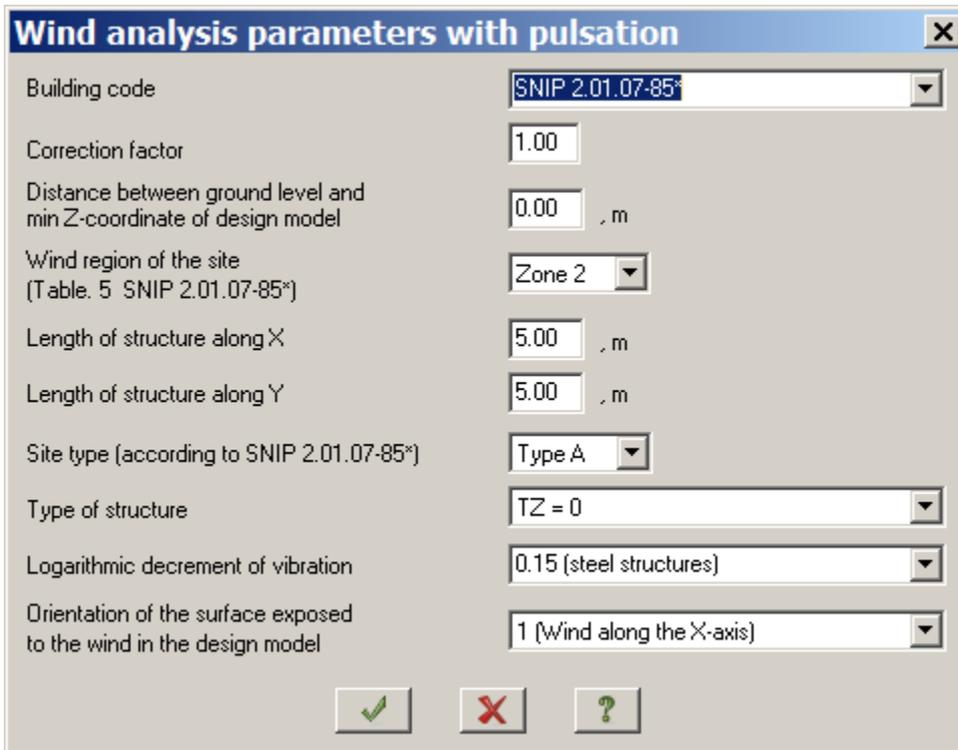

Figure 5.25 Wind analysis parameters with pulsation dialog box
- ⇒ In the **Wind analysis parameters with pulsation** dialog box (see Fig.5.25), when SNIP 2.01.07-85* is selected, define the following data: